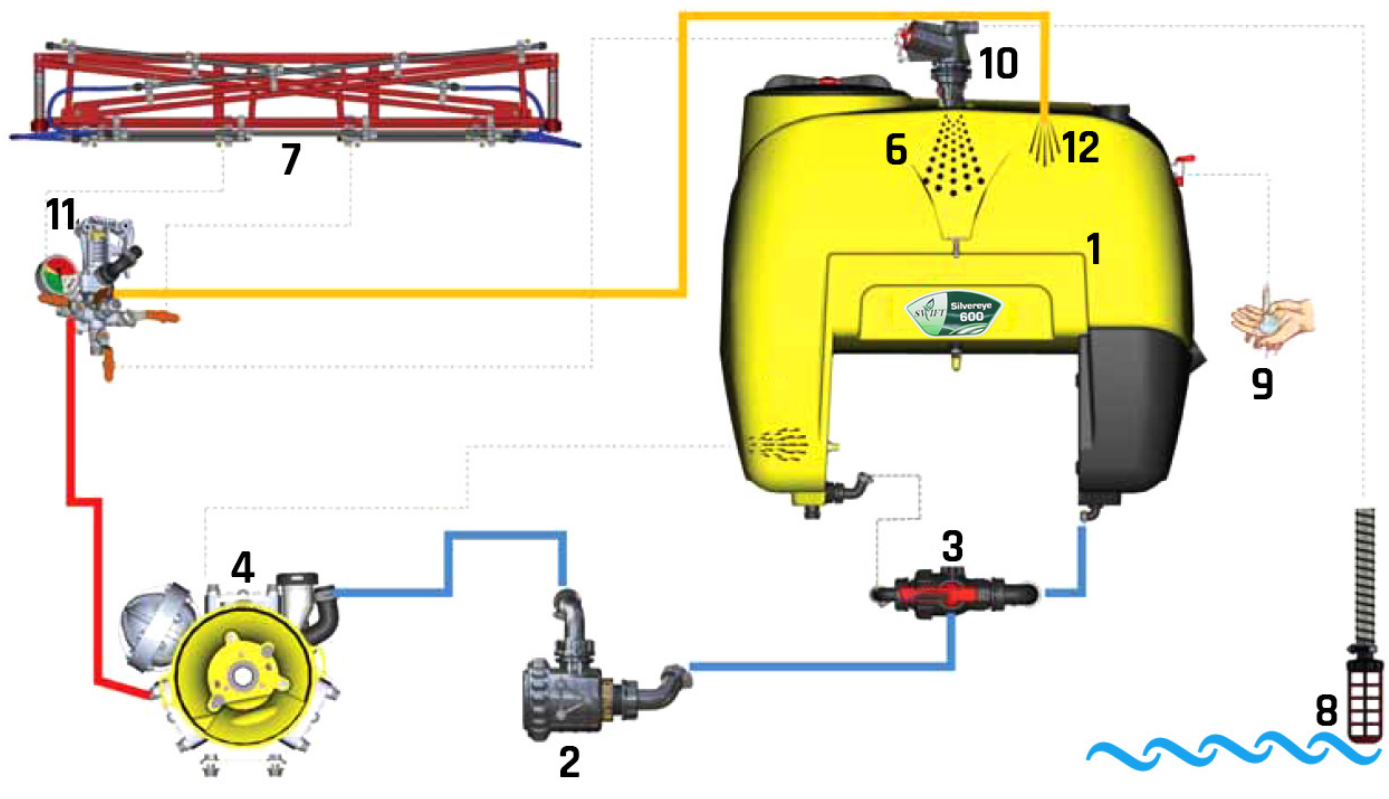

Figure 57
4. Make sure that the by-pass of regulator is in the regulator input lever position. (Figure 57)